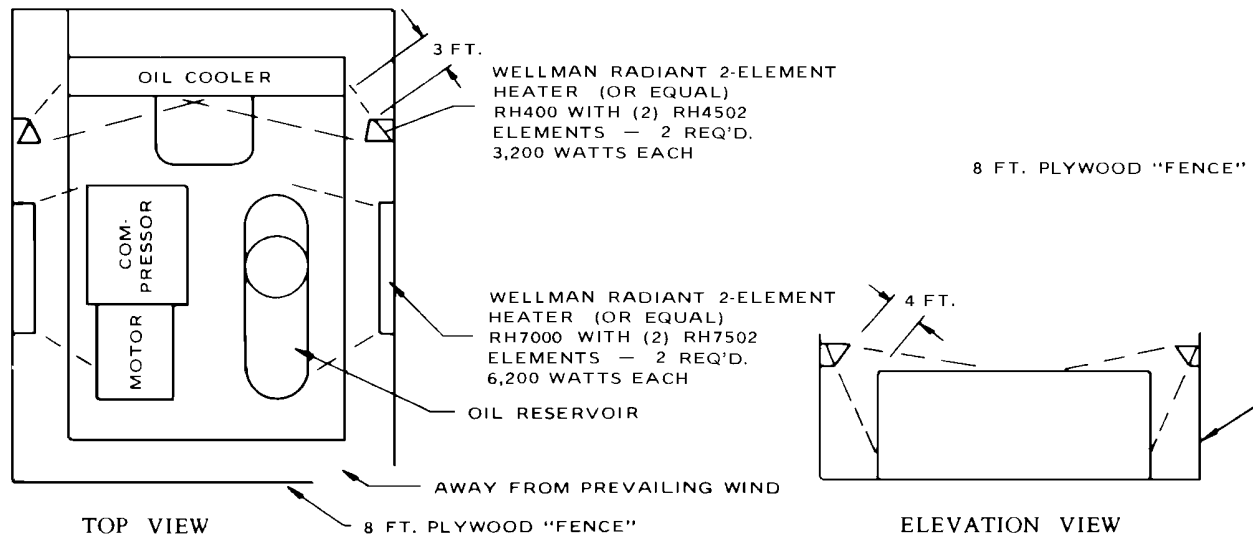

FIGURE 2-5 – COLD WEATHER INSTALLATION
5. Some means of providing heat to the oil reservoir and cooler during shutdown should be provided. There are various methods to accomplish this, but since openings are not provided for sump heaters, the use of radiant heaters is recommended. The heaters should be sized to provide at least a +10°F environment for coolers, motor and sump. FIGURE 2-5, page 11, shows how these might be located in a typical installation and sizes required.